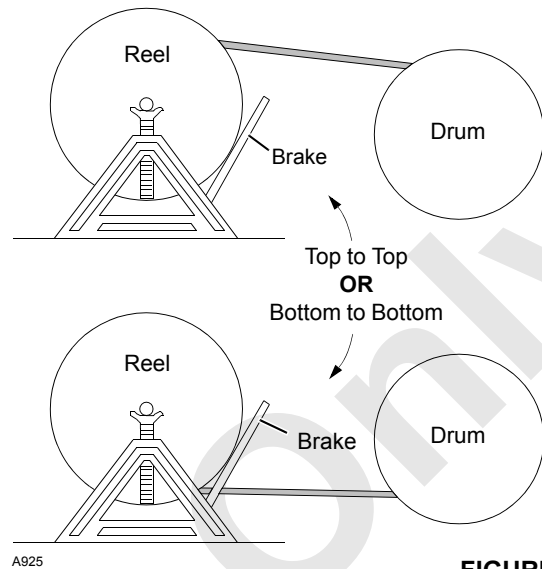

FIGURE 4-34
2. Provide a brake at shipping reel (Figure 4-34) so wire rope can be wound tightly onto drum.
3. Avoid a reverse bend when winding wire rope onto drum: wind from top of reel to top of drum or from bottom of reel to bottom of drum as shown in Figure 4-34.